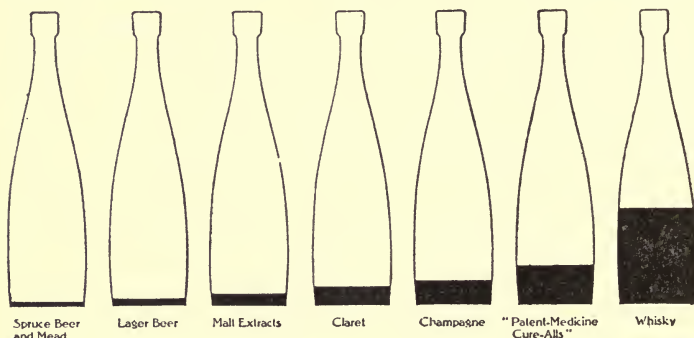

FIG. 218. — Proportions of alcohol in patent medicines and in alcoholic beverages.
**Patent medicines.** In this connection something should be said about the danger of using patent medicines, because they contain large per cents of alcohol. Figure 218 shows the amount of alcohol contained in patent medicines in comparison with the amounts contained in alcoholic liquors. The average medicine contains much more alcohol than beer or wine and some contain as much as whisky. In a